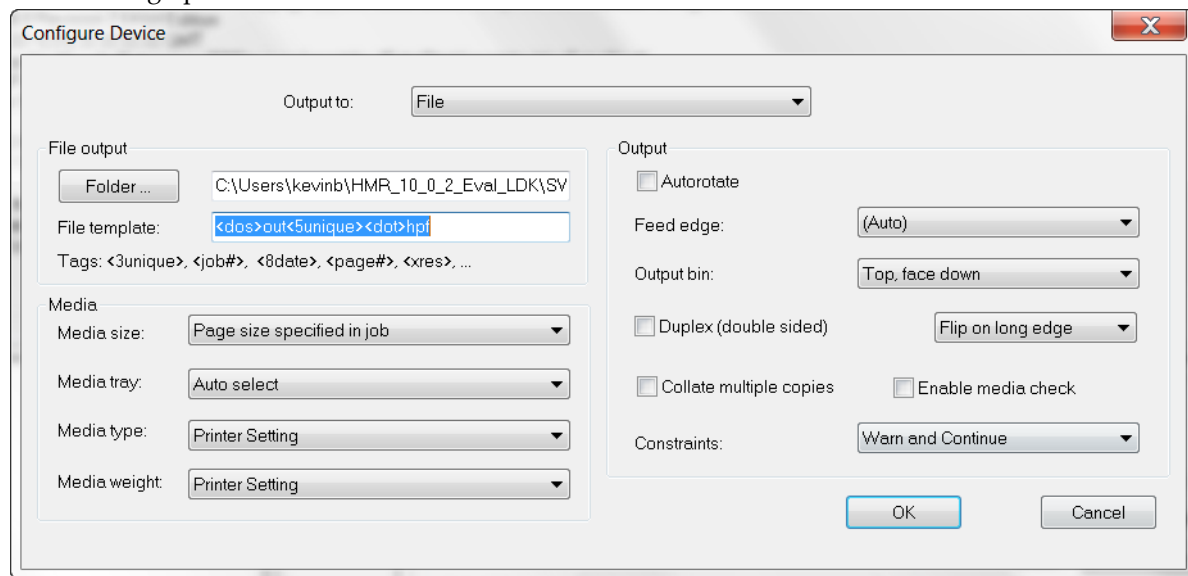

Figure 4 The OKI C931 Configuration Device window
Once the plugin is installed fully, you can select it in the **Device** list in the Page Setup dialog box and then click **Configure Device** to see the configuration dialog box shown in Figure 4.
3. With the appropriate device selected, click **Configure device...** to open the Configure Device window, which is shown in Figure 4, page 9.